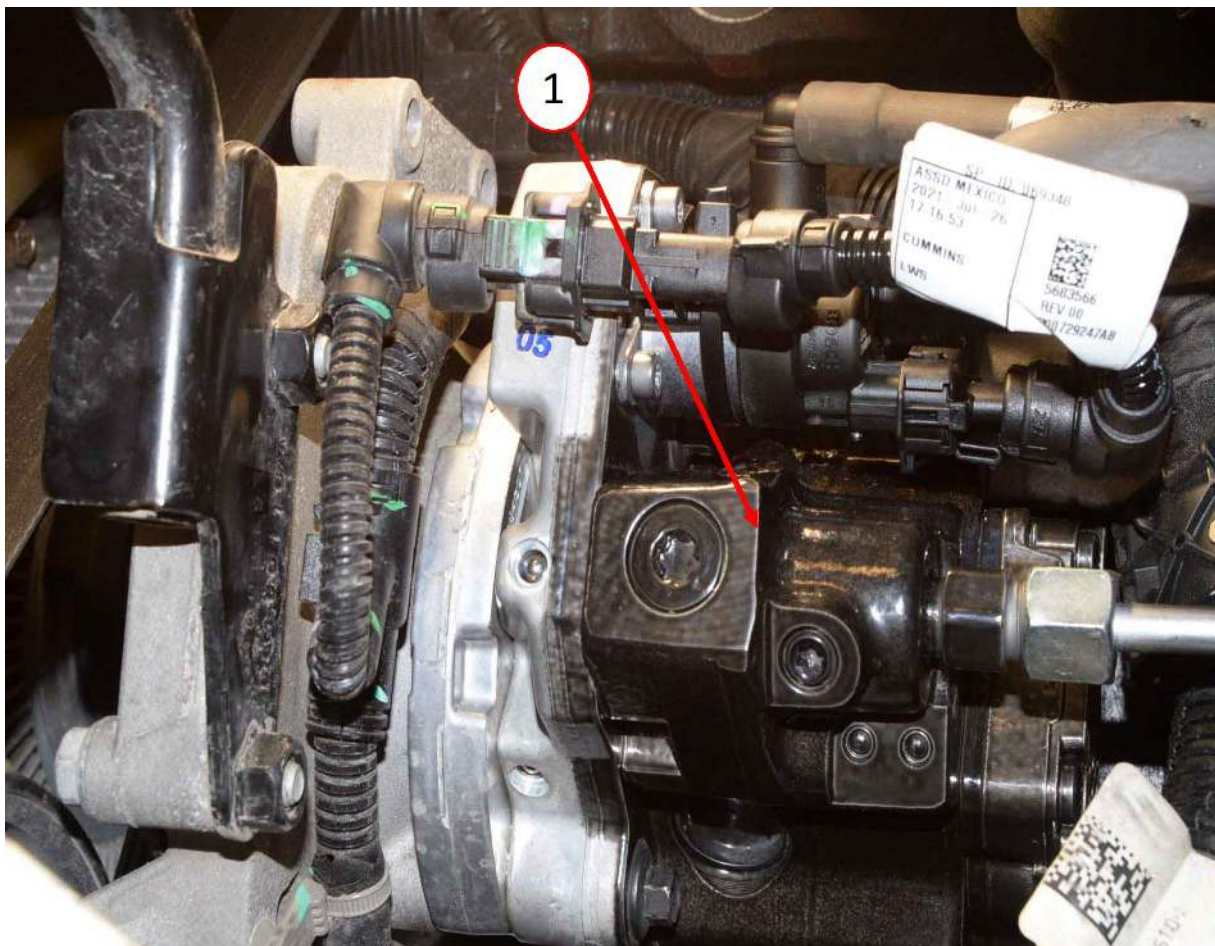

Fig. 1
NOTE: The only calibration available will be for the updated CP3.3 design High-Pressure Fuel Injection Pump (**Fig. 1**) . Please ensure that recall Y78 has been completed first before proceeding with this update.
1. Inspect the High-Pressure Fuel Injection Pump to see which pump is currently installed on the vehicle (**Fig. 1**) . Also review the vehicle VIP report to see if campaign Y78 has been performed.